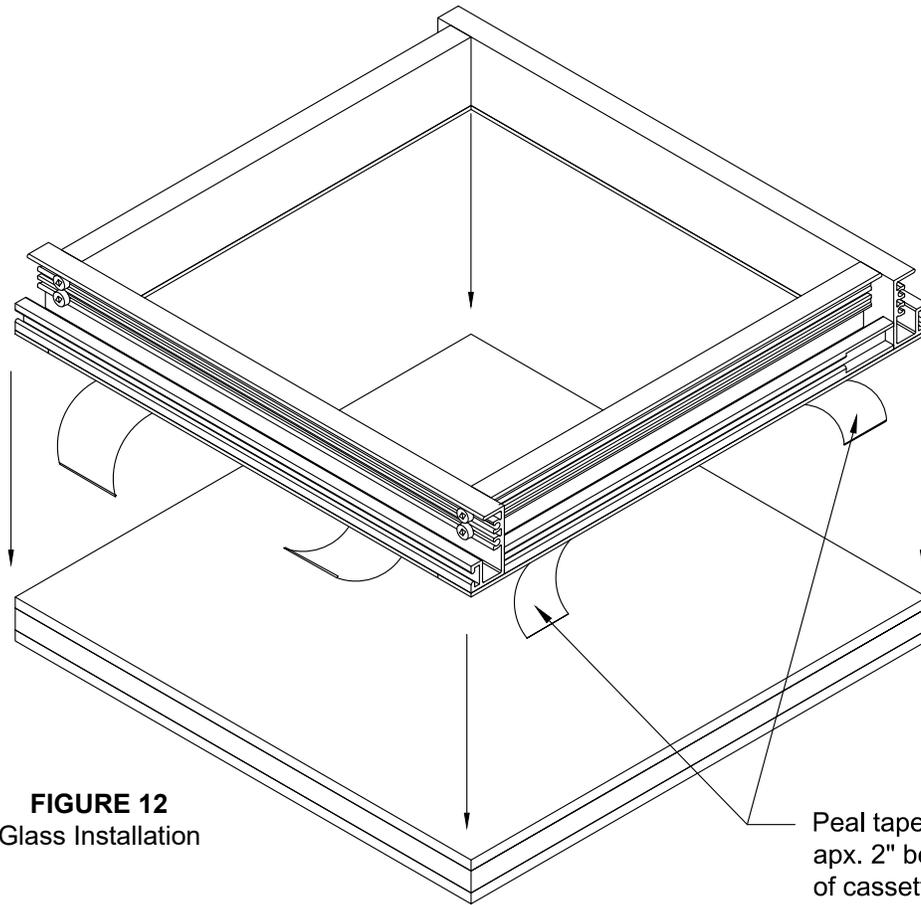

FIGURE 12
- 2.11 Remove approximately 4" of protective liner at each corner from the cassette unit. Take care not to touch or contaminate the exposed adhesive. See Figure 12